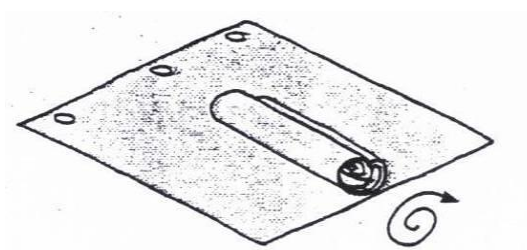

figure 3
- Now roll this half of the cloth together in a roll as shown in figure 3.